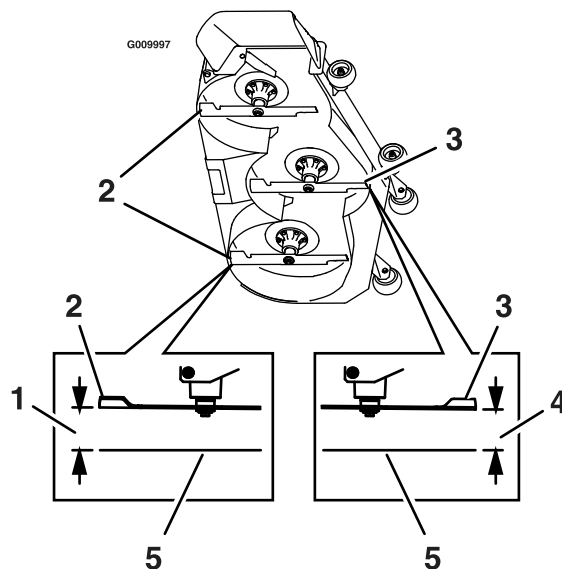

Figure 83
8. Measure from the level surface to the front tip of the center blade (Figure 83).